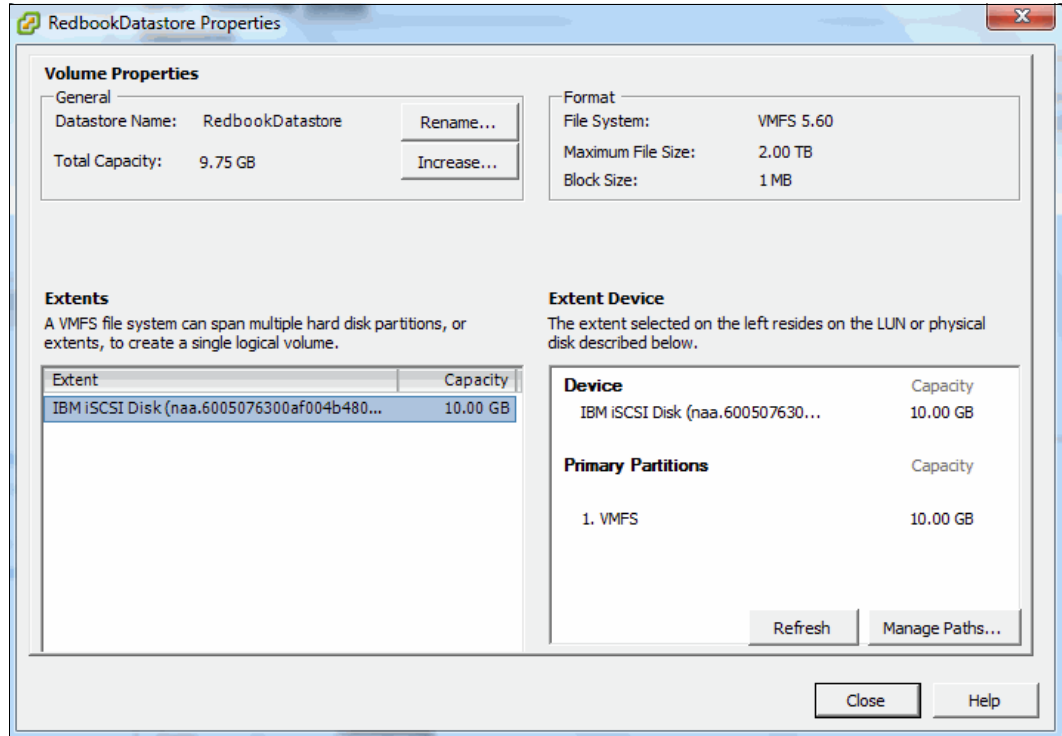

Figure 5-73 Data store properties
2. Right-click the data store and click **Properties**. The window shown in Figure 5-73 opens.